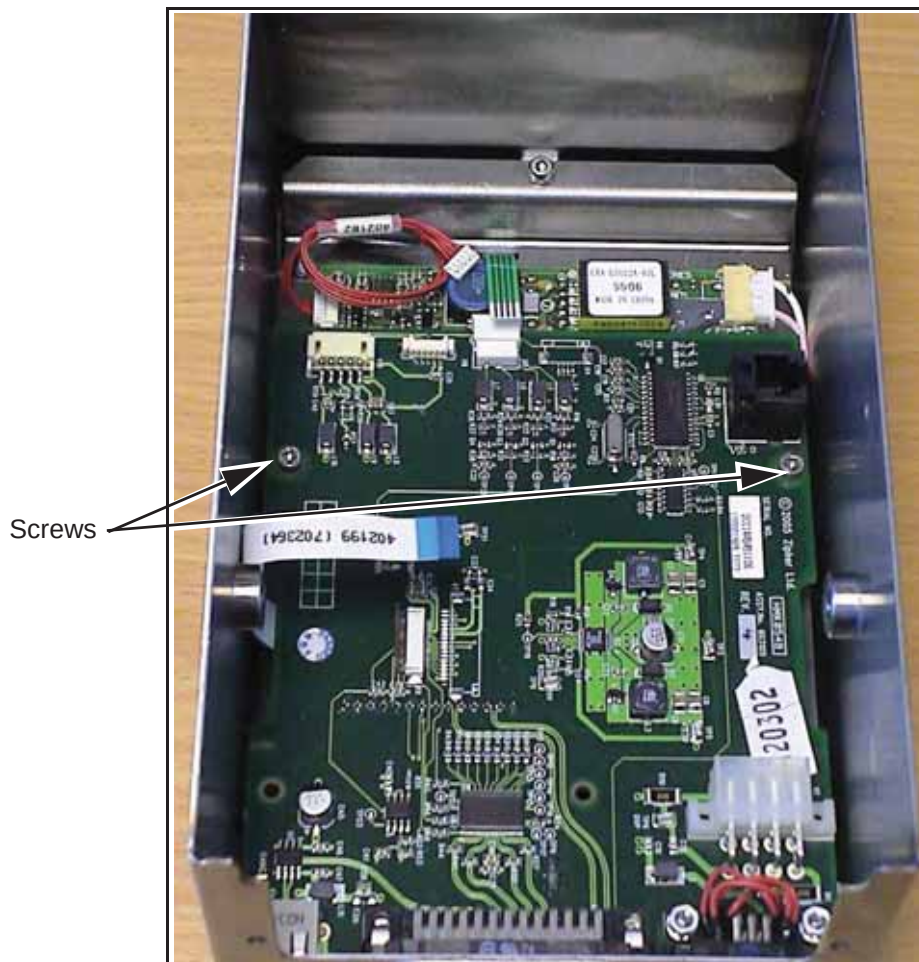

Figure 5-7: PCB Connections
- 4 Remove and retain the two screws securing the PCB (Figure 5-7).